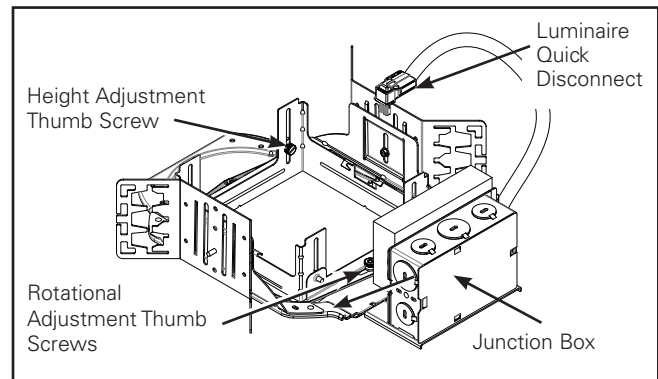

Figure 3
2. Adjust hanger adjustment screws (Figure 3) so bottom of square neck is flush with finished ceiling line. (Figure
3. (Height): Square neck can also be adjusted by loosening the 3 thumbscrews and adjusting such that the neck is flush with the ceiling. Once desired height is achieved, tighten thumb screws (Figure 3).
4. (Rotation): If rotation of the square neck is required, loosen 2 thumbscrews. Rotate the square neck to the desired position. Tighten thumbscrews upon completion (Figure 3).